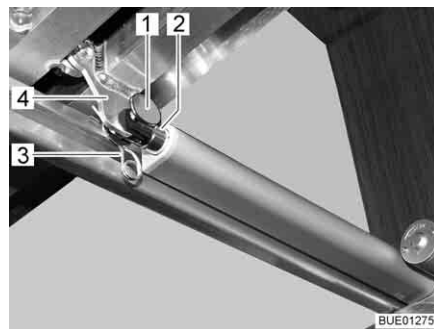

Fig. 114 Drive
- Remove the connection (e.g. pin and cotter pin (Fig. 114,1 and 3)) between the push rod (Fig. 114,2) and the slatted frame (Fig. 114,4).